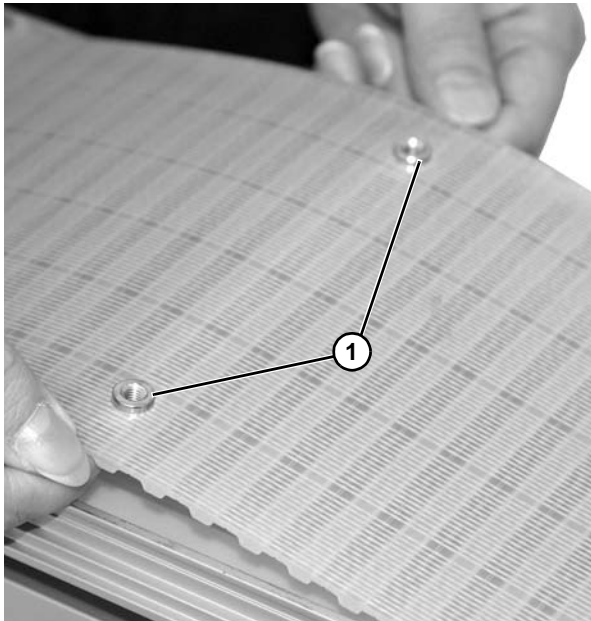

Figure 12
2. Install inserts (**Figure 12, item 1**) from underside of belt.